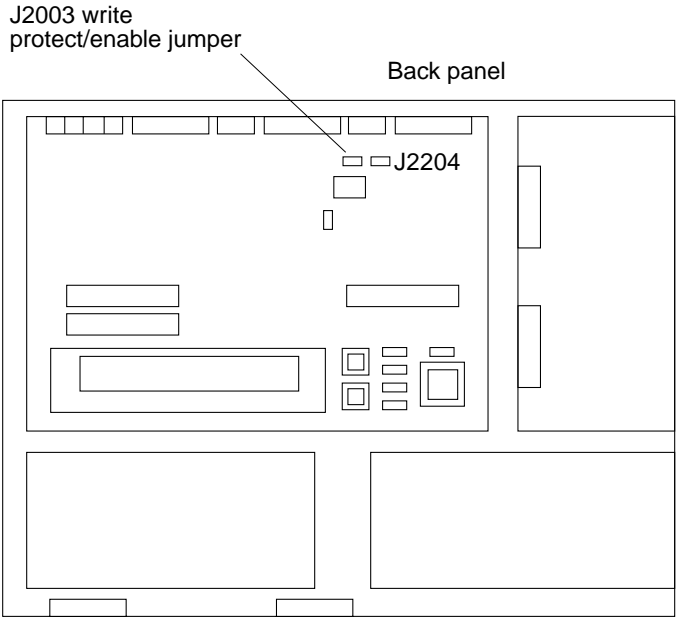

FIGURE 4-2 Sun Ultra 1 Creator Series Write-Protect/Enable Jumper Location on Motherboard
- See FIGURE 4-2 if you have a Sun Ultra 1 Creator Series system.